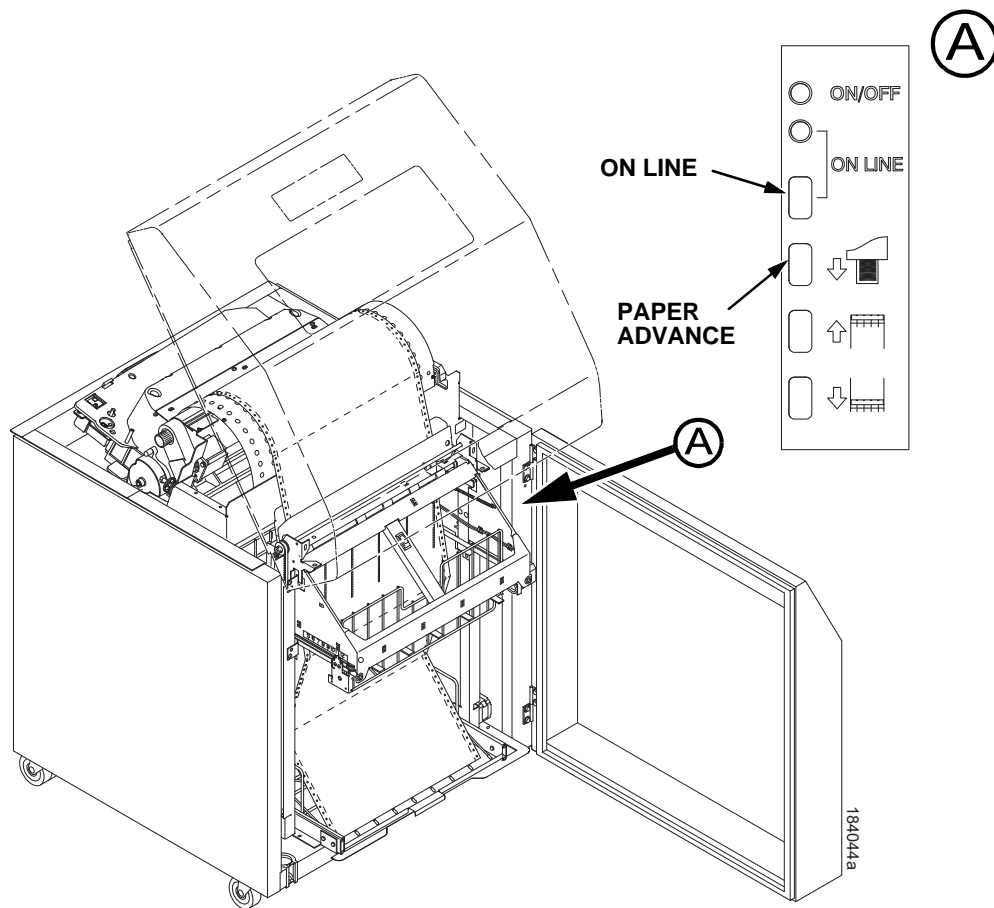

Figure 40. Stacking Paper on the Wire Paper Tent
1. Press the **PAPER ADVANCE** key and hand feed the paper down into the paper throat of the stacker. Continue to advance the paper until it reaches the paper tent (if installed) and feed three to five extra sheets into the stacker. Make sure the paper passes through the paper throat of the stacker. (Figure 40.)
2. Stack the extra pages on top of the wire paper tent (if installed), making sure the paper bends with the natural fold. (Figure 40.)